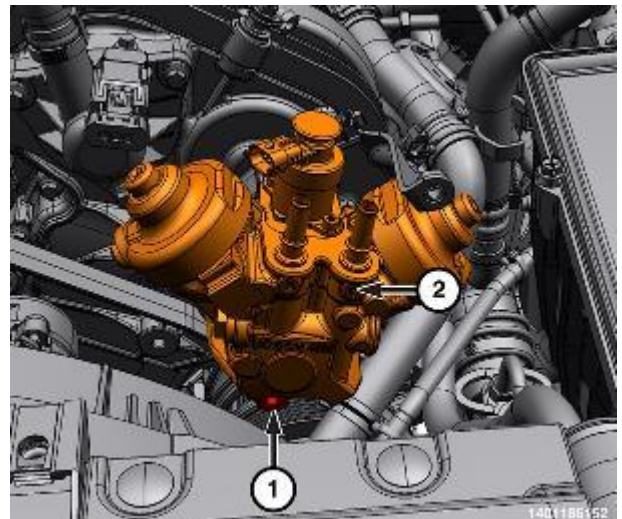

Figure 194 – HPFP Lower Bolt
- 38. Remove the fuel injection pump lower bolt (1) and the fuel injection pump (2) (Figure 194).